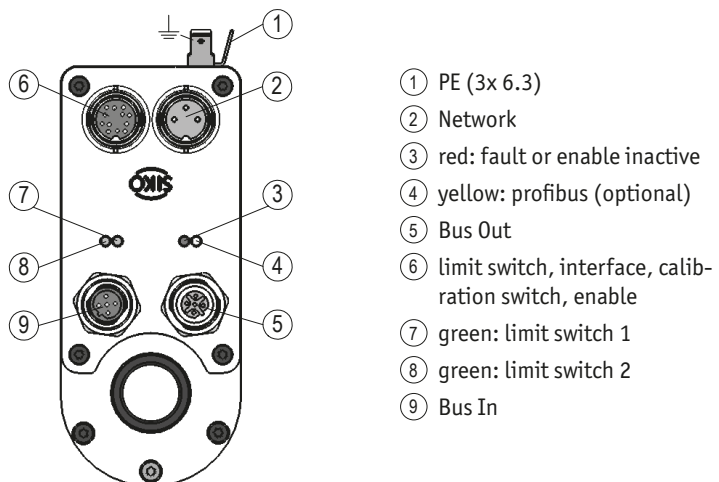
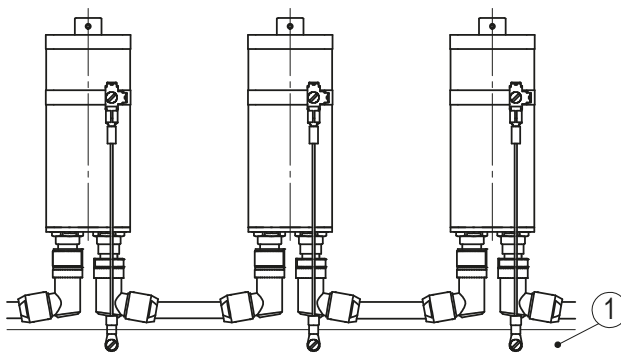

Fig. 7: Connections AG02
Fig. 10: Ground bar
The serial RS232 or RS485 interface is connected via 12-pin connector (6) (see Fig. 7).
The calibration switch is connected via the 12-pin connector ⑥ (Fig. 7). The input operates high-active, which means that calibration of the actuator is performed upon applying of 24 V DC to the device's + input.
The two limit switches and the enable are connected via the 12-pin connector ⑥ (Fig. 7). With the limit switch deactivated, a 24 V DC voltage must be applied on the +input. For the drive to be moved, a 24 V DC voltage must be applied on the Enable input as well.
If limit switch 1 or limit switch 2 is inactive, this is signalled by a green LED (see Fig. 7). If enable inactive, this is signalled by a red LED (see Fig. 7).
For protection against interference, the screens of the signal lines and the power line must be connected on both sides. Potential differences cause inadmissible currents on the screen. Apply the PE connection ① to the protective conductor potential below the connecting plugs (see Fig. 7). Use 6.3 mm flat connectors with short strands 2.5 mm² ... 4 mm² (not in the scope of delivery). For multiple actuators we recommend connecting the earthing to a ground bar ① (see Fig. 10).